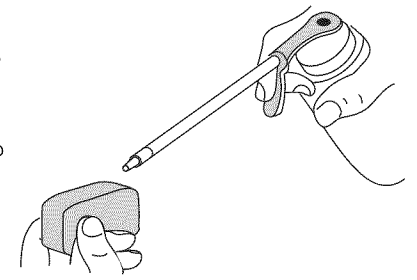

Fig. 24
- Apply enough clean SAE 30 motor oil to lightly coat the filter (Fig. 24).